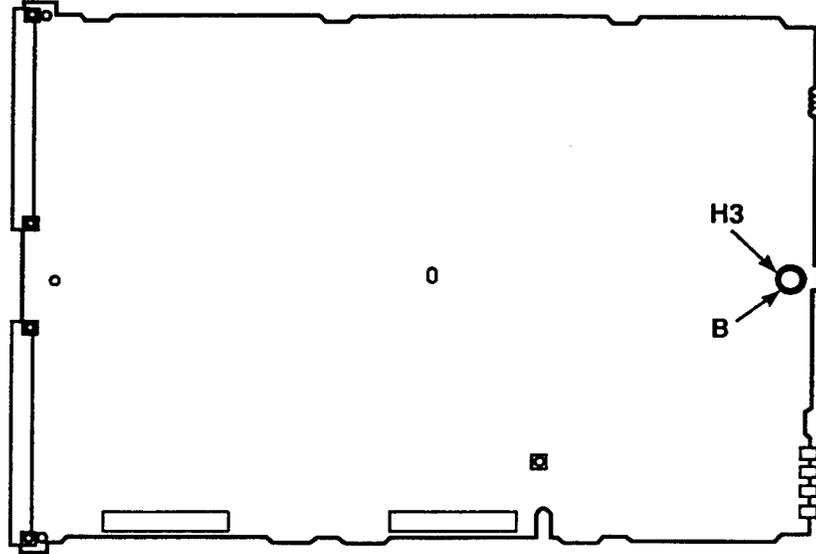

Figure 16-9. A1 Low Speed Board Removal
- 1 [B]: Remove single mounting screw (H3) at the front center of A1 board as shown in Figure 16-9.